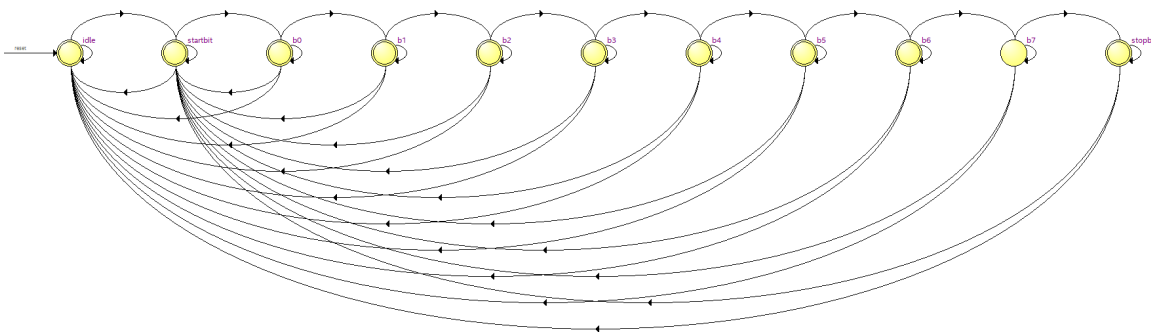

Figure 3: Sample State Transition Diagram.
Double-clicking the state machine block will display a state transition diagram similar to that in Figure 3 along with tables showing the state transition conditions and state encodings²:
3. A screen capture of the state transition diagram similar to Figure 3.